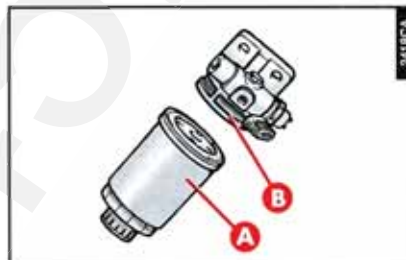

fig. 22
- Loosen the filter cartridge (A-fig. 22) using the appropriate spanner and remove it from its support (B-fig. 22).